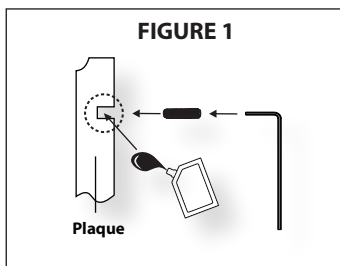

FIGURE 1
- 2) Apply a small amount of silicon sealer *(Included with mailbox post package)* in and around the holes in the back side of the plaques. Insert the threaded studs into the back side of the plaque. Tighten with Allen wrench. Do not over tighten. **(SEE FIGURE 1)**